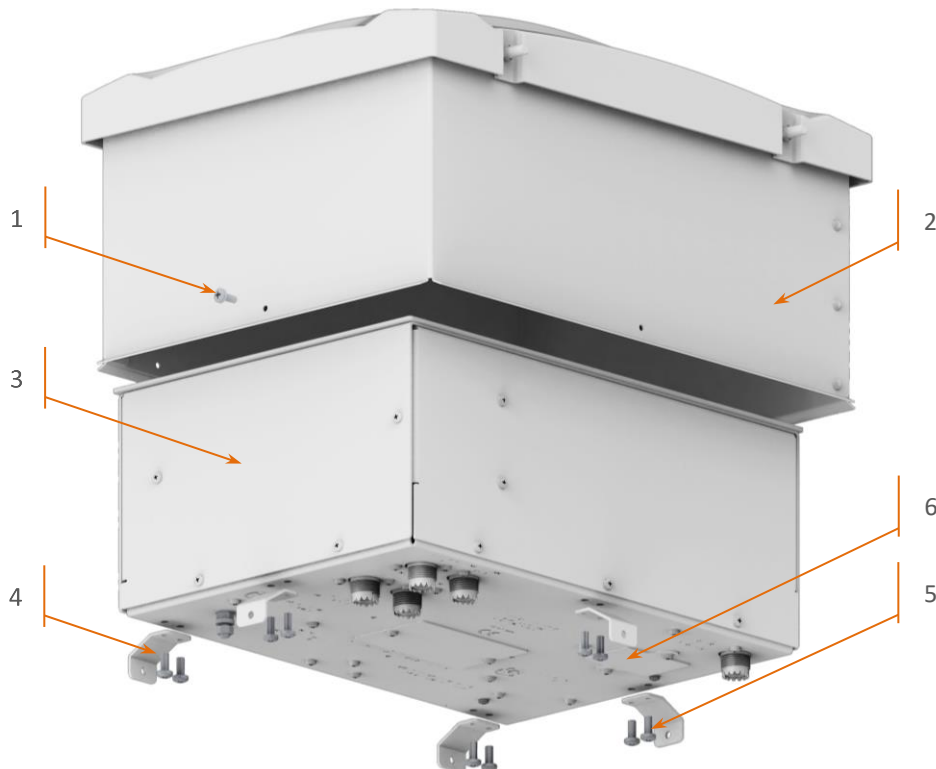

Figure 2-1 ACOM 04AT tuner with ACOM 04-WP weather protection cover removed, and without installation accessories
Your new ACOM 04AT is shipped with the protective cover mounted. Regardless of which mounting option will be chosen (desk, wall or mast), in order to mount the selected bracket, the weather protection cover must be removed (see Figure 2-1 ACOM 04AT tuner, Pos. (2)).